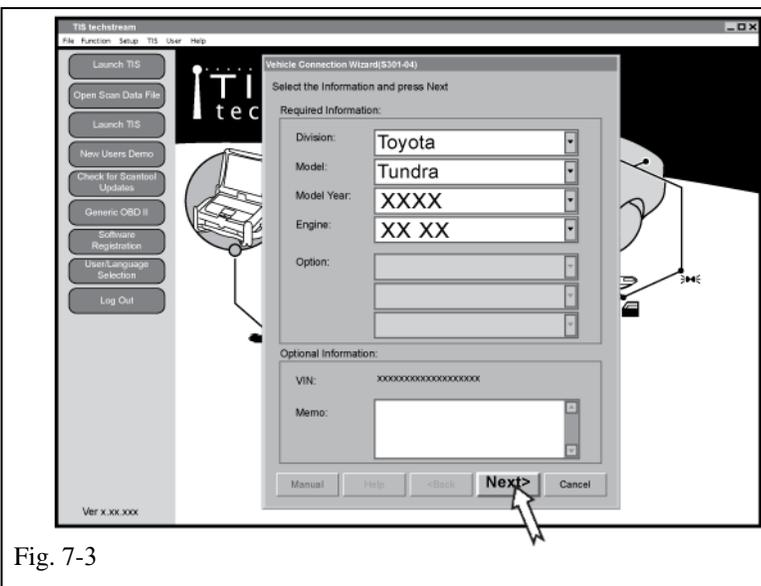

Fig. 7-3
- (e) Confirm that the information displayed on the Vehicle Connection Wizard is correct for the vehicle. If not verify that the Techstream is properly connected. (Fig. 7-3)
- (f) Click "Next>." (Fig. 7-3)